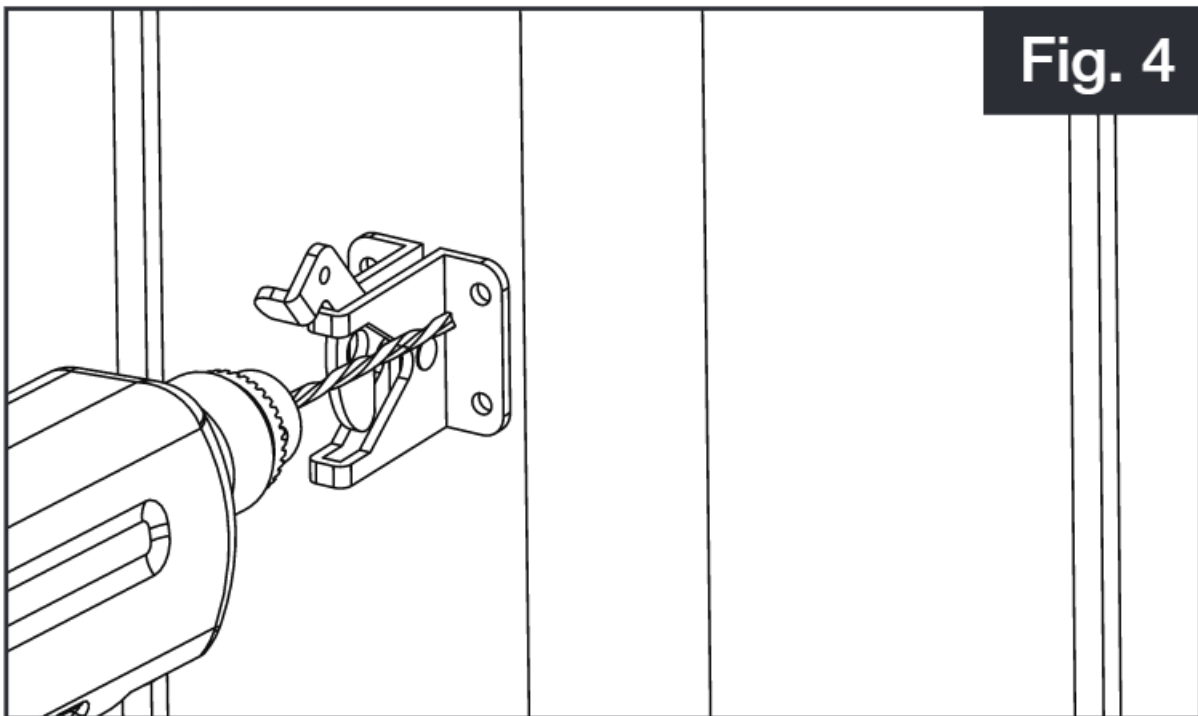

Fig. 5
a. Drill two 7/64" pilot holes on the gate for the striker bracket location (Fig. 5).